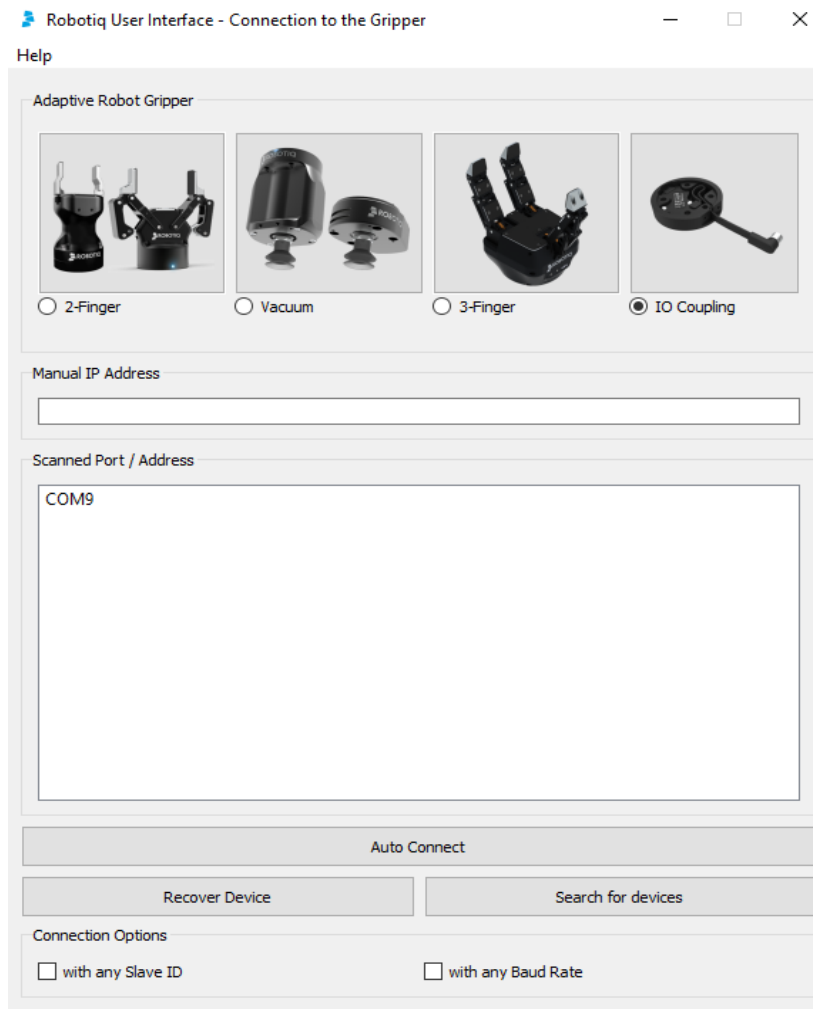

Figure 4.2 Device found (left) and no device found (right).
7. Start the Robotiq User Interface on the computer. Select the I/O Coupling in the list and connect to the Coupling using the **Auto Connect** option (see Figure 4.2). If the firmware of the coupling or the gripper needs to be updated, a pop-up message will notify the user.
3. Start the Robotiq User Interface on the computer. Select the I/O Coupling in the list and connect the Coupling using the **Auto Connect** option (see Figure 4.2). If the firmware of the coupling needs to be updated, a pop-up message will notify the user.
You need to connect to the Robotiq Gripper you will be using (see Figure 4.2).